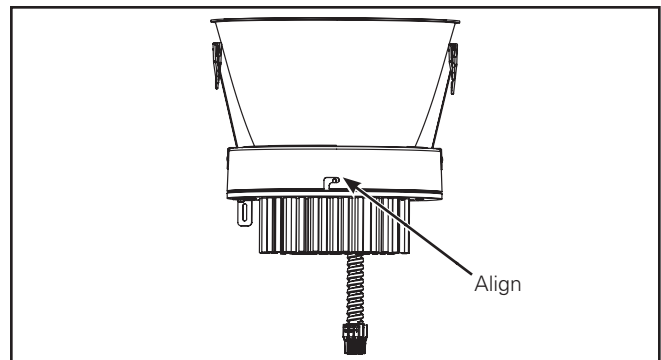

Figure 4.
3. Place LED Engine into Lower trim. Align trim slots with engine screw holes (Figure 4.).